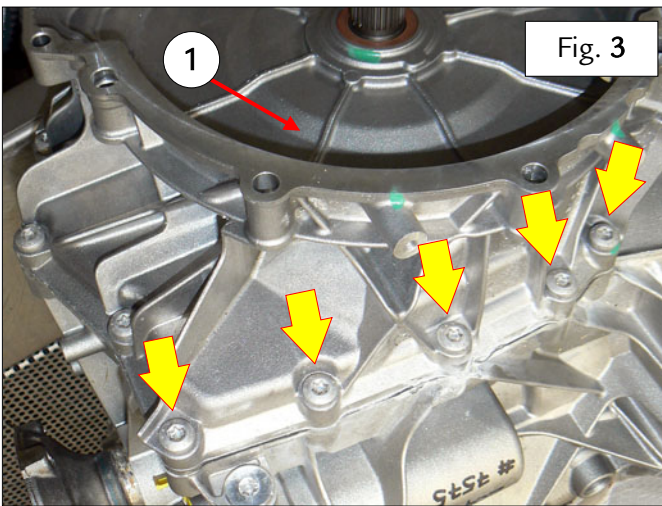

Fig. 3
- On the left hand side of the DCT gearbox, undo and remove the indicated screw – Fig. 3.
using (1) – Fig. 3, 4, 5 and 6.